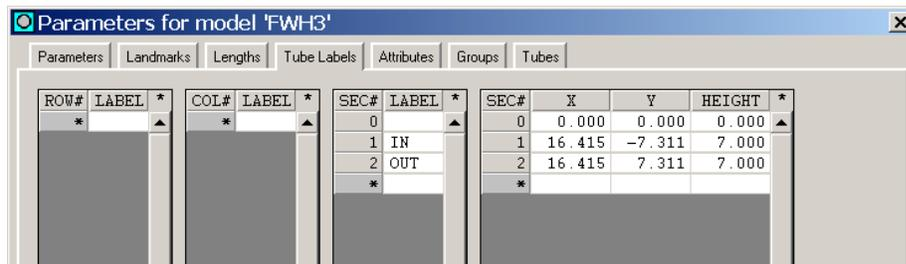

Figure 7-7. Parameters Dialog - Tube Labels Tab
- STEP 17:** Click in the *Sec Label* field for *Sec 2* and type *OUT*. The *Sec Label* fields on the *Tube Labels* tab should now appear as shown in Figure 7-7.